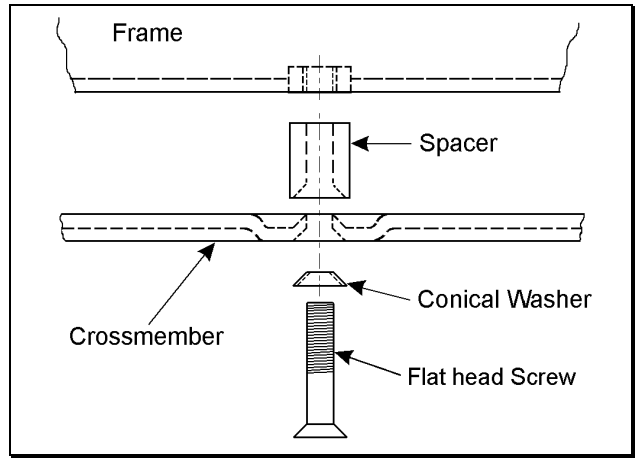

Figure 12a
4. Place 3 spacers from kit 860161 between the crossmember and the frame with the conical end of the spacer facing down. See figure 12a. For vehicles with an automatic transmission, add 3 shims.
5. If flat head screws were removed, install a conical washer and apply thread lock to 3 flat head screws from kit 860161. Insert the screws through the crossmember, spacers, and into the frame. See figure 12a.